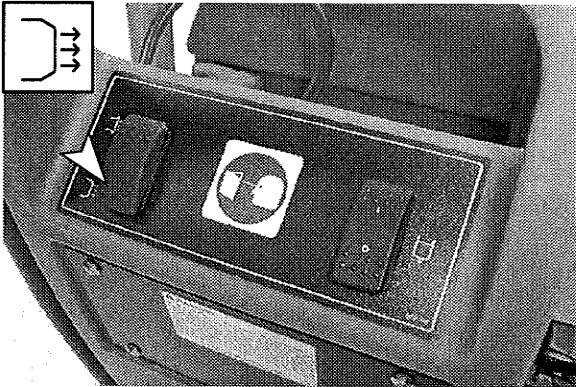

FIG. 22
3. Press vacuum/blower switch towards blower symbol to activate blower (Figure 22).